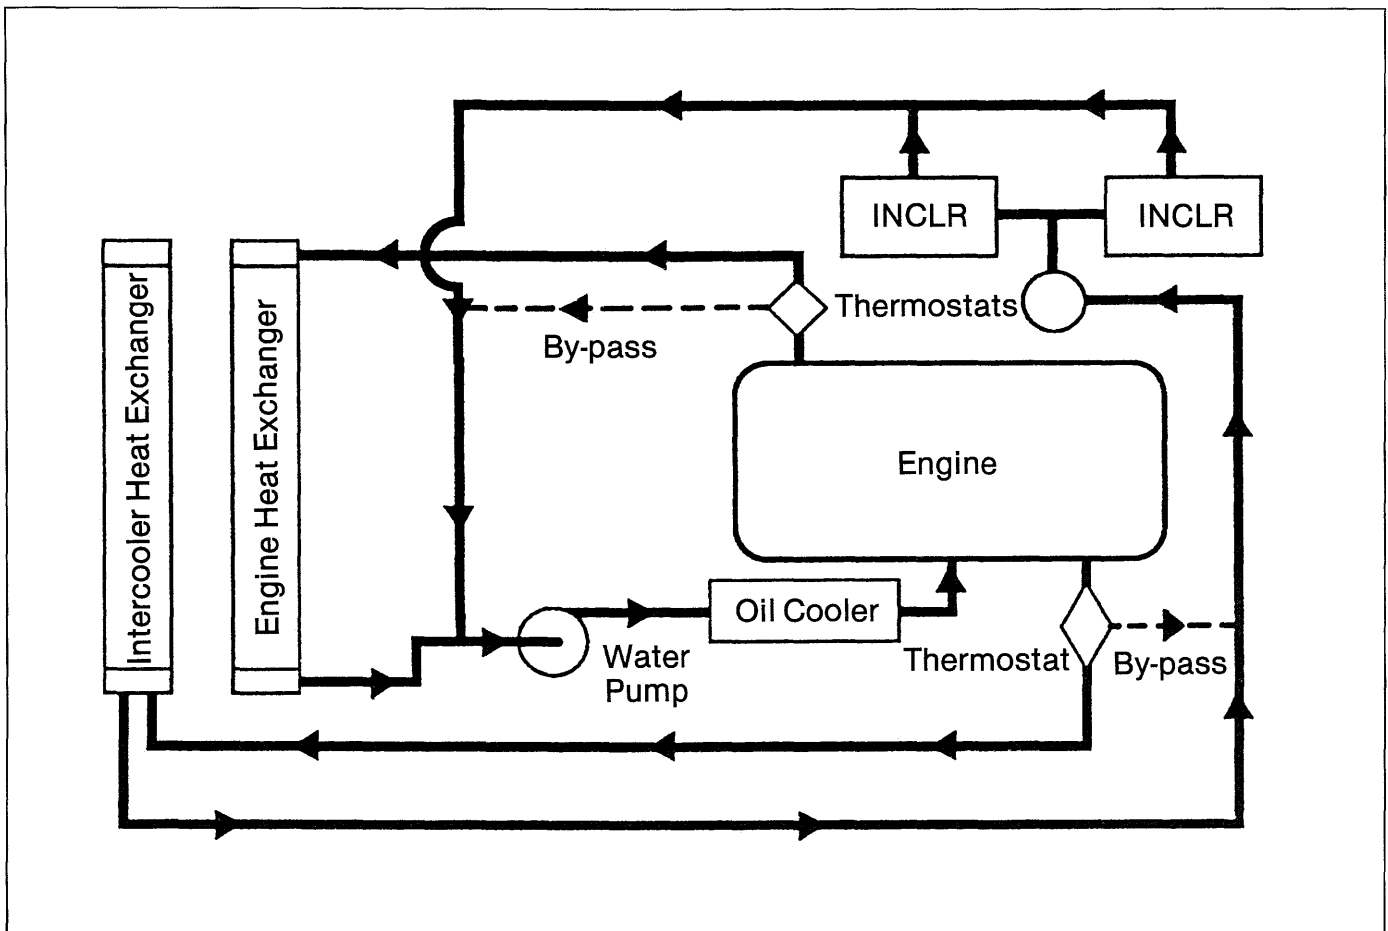

Figure 9. Integrated Liquid Charge Cooling Design Schematic
**System Coolant Capacity**—Total cooling system coolant capacity must be known in order to provide adequate expansion volume to the deaeration tank. The total capacity must include the basic engine, radiator, heater circuit, plumbing, etc. A minimum 6% expansion volume (Figure 9) must be provided in the deaeration tank along with a 2% deaeration volume and sufficient reserve volume to meet drawdown capacity.
**Integrated Liquid Charge Cooling (ILCC)**—The ILCC cooling system (Figure 9) is required for the higher horsepower Series 149 engines. This system utilizes a single engine water pump and separate radiators to cool engine and intercooler coolant. Radiator manufacturers refer to the system as two circuit, split flow, separate circuit cooling, advance charge cooling, etc. Improved fuel economy and engine life are benefits of this system. Approximately 15% of the total water pump flow is diverted from the left side front cylinder block to a separate radiator. This radiator can experience water pressure up to 40 psig. Air box temperature is sensed to control the amount of coolant flow to this radiator. This radiator gives a large coolant temperature drop and the cooled coolant is routed directly to the intercoolers for improved charge air cooling.